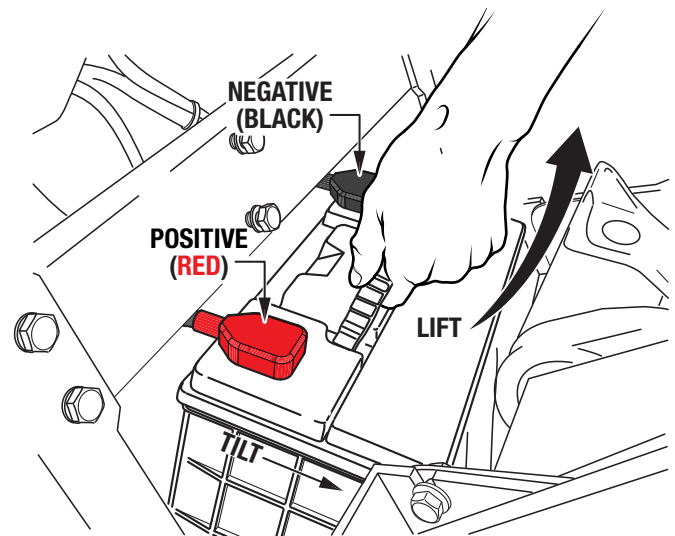

Figure 5. Battery Removal
5. Disconnect the negative (**BLACK**) battery cable, then disconnect the positive (**RED**) battery cable (Figure 5).
6. Tilt the battery backward and lift up on the handle to remove (Figure 5). **MAKE SURE** the battery terminals **DO NOT** touch the frame during removal.